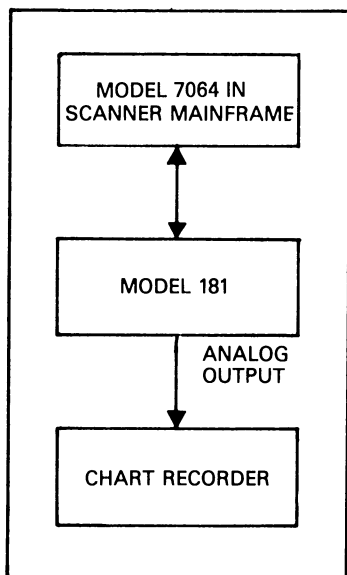

Figure 3-1. Thermal Offset Configuration
2. Set up the configuration shown in Figure 3-1.